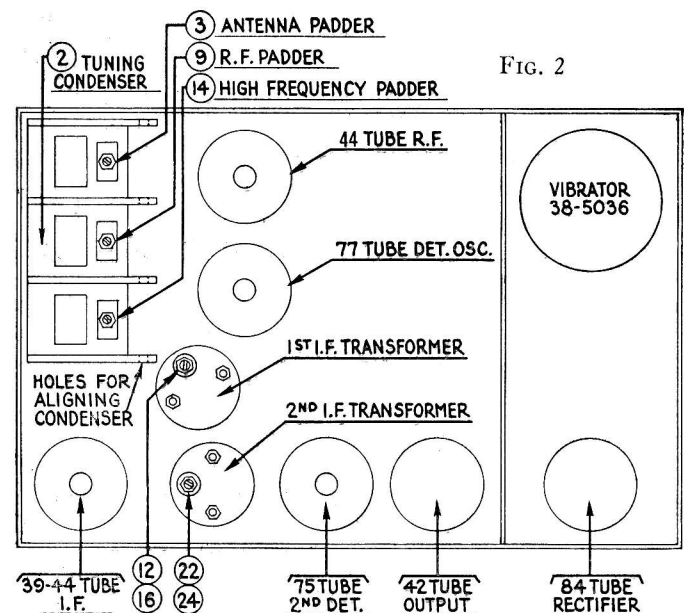

FIG. 2
Remove the speaker lid from the Receiver. Remove the grid cap terminal from the 77 tube (for location see Fig. 2).
the 77 tube. (See Fig. 2.) The output meter must be connected.
The padders ② and ④ are adjusted first (Figs. 2 and 3). Turn the adjusting screw ② all the way in. A metal screwdriver can be used for this. Then, with generator attenuator set so there is approximately half-scale reading, adjust the nut ④ with a fibre wrench for the maximum reading on the output meter.
of the tuning condenser housing. (See Fig. 2.) Place a nail of the size that fits snugly through the holes and then turn the condenser plates out of mesh until they strike against the nail.